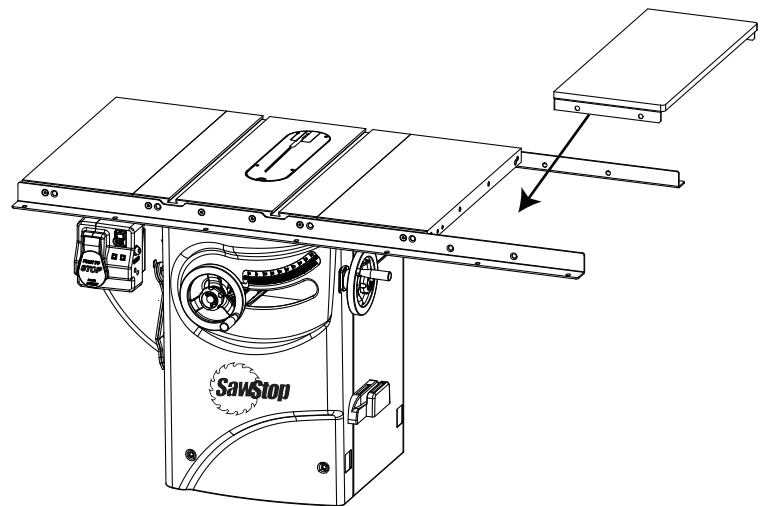
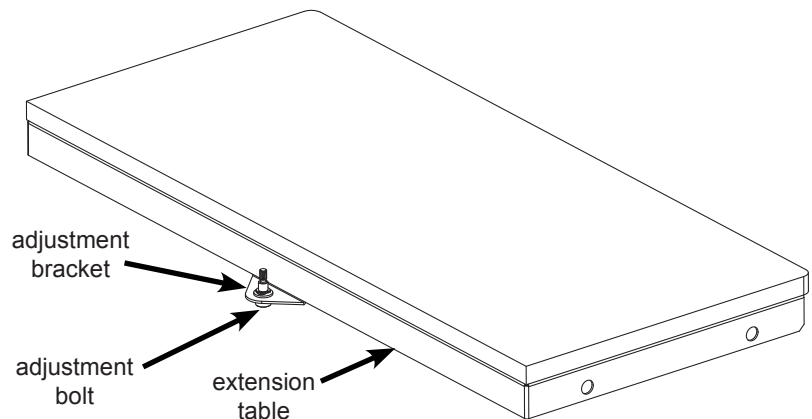

Fig. 9a
Fig. 9b
9. The next step of the assembly is easiest with two people. Position the extension table between the front and rear rails (see Fig. 9a). Make sure that the table is oriented so that the adjustment bracket is closest to the right extension wing. Tilt the extension table slightly so that the adjustment bracket can fit under the edge of the extension wing. Position the extension table so that the end of the adjustment bolt (shown in Fig. 9b) aligns with the corresponding threaded hole in the bottom of the extension wing. With the weight of the extension table still supported, turn the adjustment bolt until the extension table is roughly flush with the extension wing.